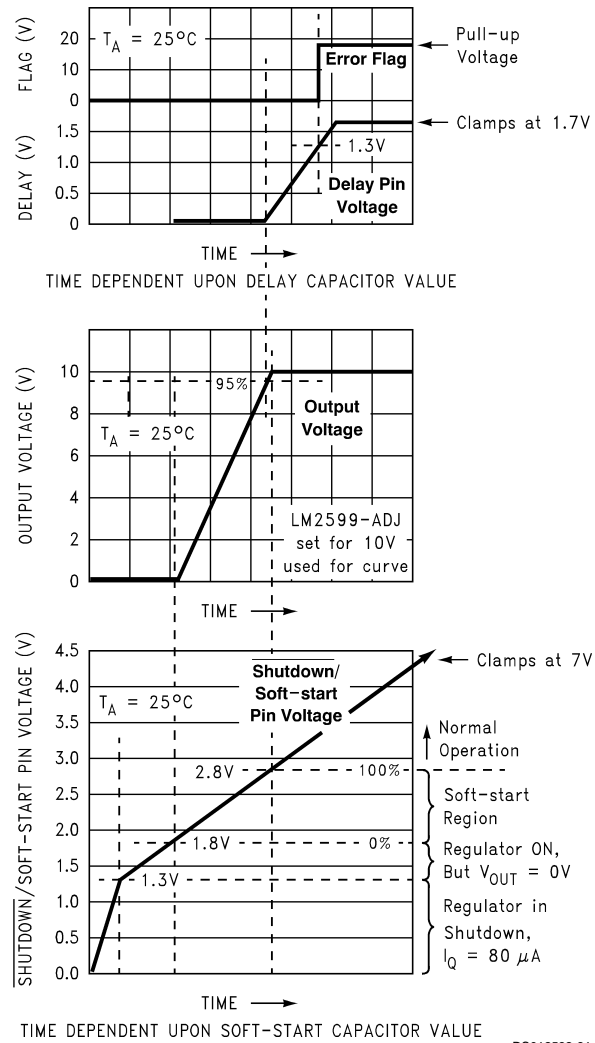
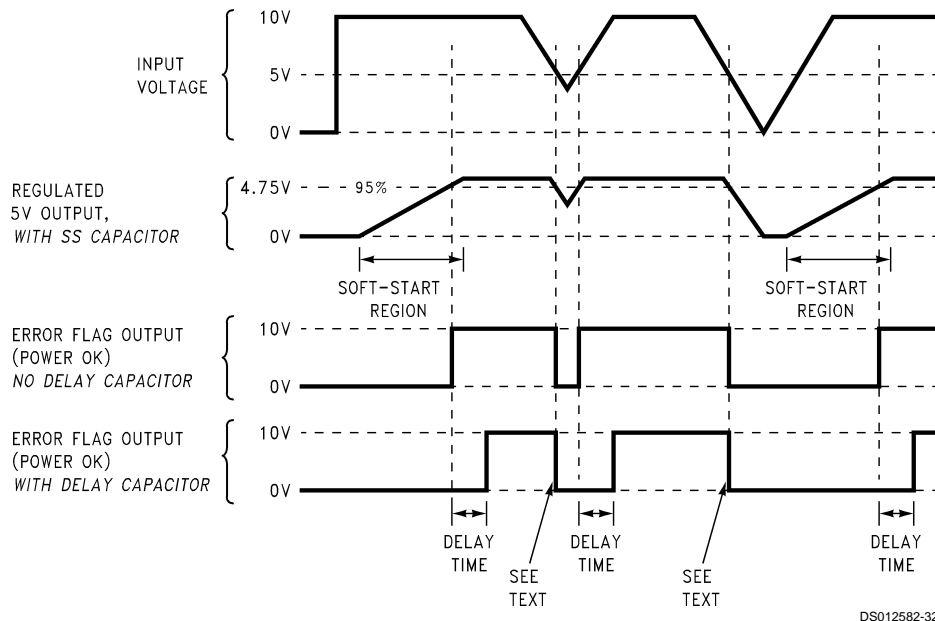

FIGURE 13. Soft-start, Delay, Error, Output
FIGURE 14. Timing Diagram for 5V Output
C_{SS} —A capacitor on this pin provides the regulator with a Soft-start feature (slow start-up). When the DC input voltage is first applied to the regulator, or when the Shutdown /Soft-start pin is allowed to go high, a constant current (approximately 5 μA begins charging this capacitor). As the capacitor voltage rises, the regulator goes through four operating regions (See the bottom curve in Figure 13).
3. Soft-start Region. When the \overline{SD} /SS pin voltage is between 1.8V and 2.8V (@ 25°C), the regulator is in a Soft-start condition. The switch (Pin 2) duty cycle initially starts out very low, with narrow pulses and gradually get wider as the capacitor \overline{SD} /SS pin ramps up towards 2.8V. As the duty cycle increases, the output voltage also increases at a controlled ramp up. See the center curve in Figure 13. The input supply current requirement also starts out at a low level for
Note: The lower curve shown in Figure 13 shows the Soft-start region from 0% to 100%. This is not the duty cycle percentage, but the output voltage percentage. Also, the Soft-start voltage range has a negative temperature coefficient associated with it. See the Soft-start curve in the electrical characteristics section.
C_{DELAY} — Provides delay for the error flag output. See the upper curve in *Figure 13*, and also refer to timing diagrams in *Figure 14*. A capacitor on this pin provides a time delay between the time the regulated output voltage (when it is increasing in value) reaches 95% of the nominal output voltage, and the time the error flag output goes high. A 3 μA constant current from the delay pin charges the delay capacitor resulting in a voltage ramp. When this voltage reaches a threshold of approximately 1.3V, the open collector error flag output (or power OK) goes high. This signal can be used to indicate that the regulated output has reached the correct voltage and has stabilized.